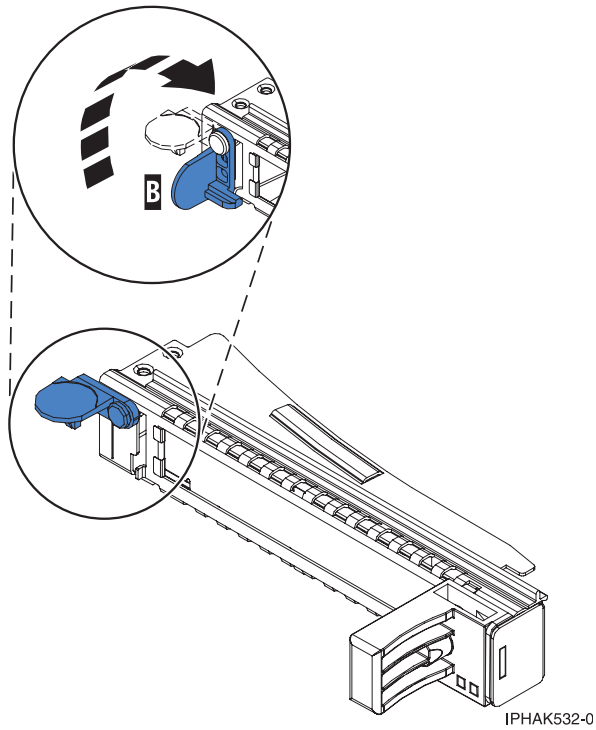

Figure 71. Opening the tailstock clamp
- a. To unlock the filler tailstock, rotate the latch (**B**) at the tailstock end of the cassette as shown in Figure 71 on page 68.